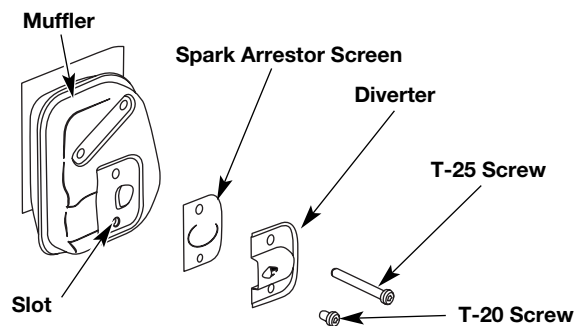

Fig. 39
2. With a flat blade screwdriver or Torx T-20 bit and a T-25 bit, remove the screws attaching the spark arrester diverter to the muffler (Fig. 39).